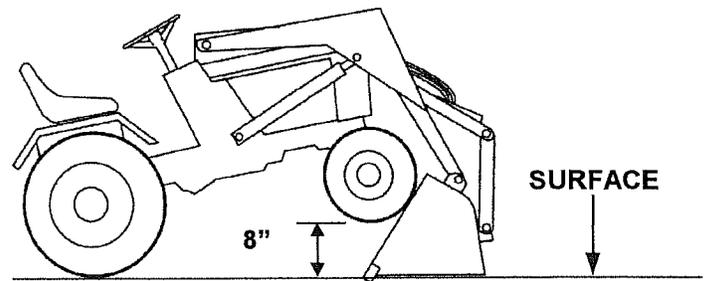

FIGURE 35
1. (See figure 35) Position the bucket as shown. Raise the front of the loader about 8" off the surface. Use jack stands to hold the loader in the raised position.